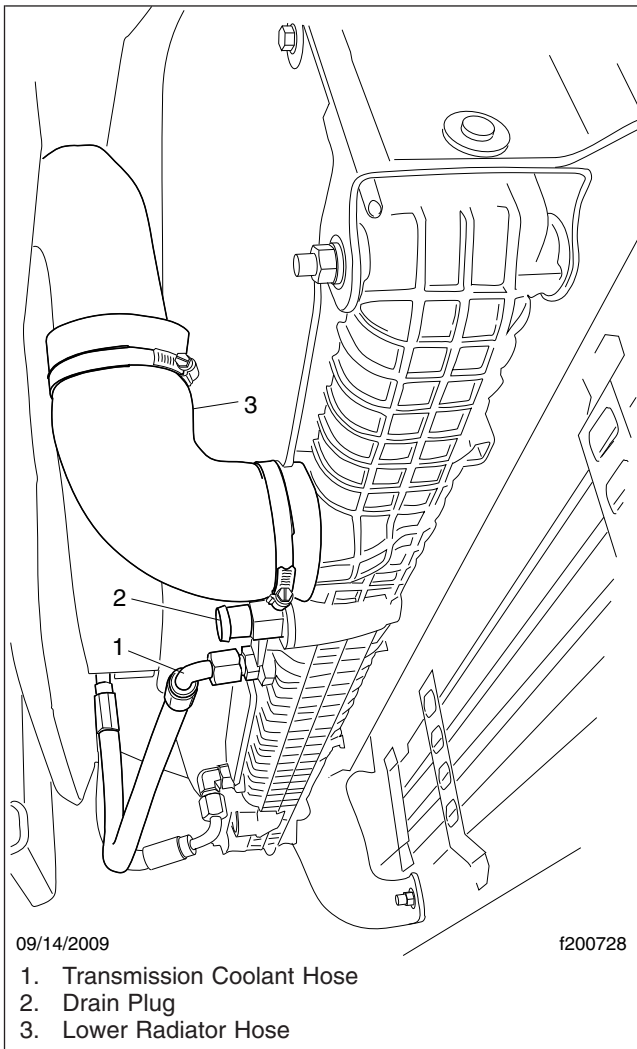

Fig. 2, Typical Coolant Drain Plug Location
4. Remove the drain plug at the radiator end tank; see Fig. 2. Allow the coolant to drain.